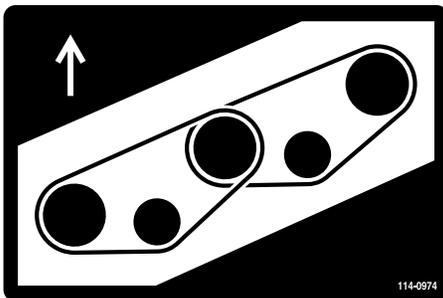
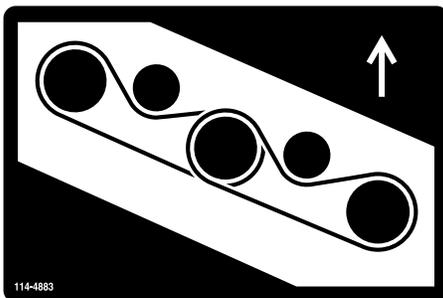

Figure 131
Figure 132
7. Route the new belt around the spindle pulleys and idler-pulley assembly (Figure 131 and Figure 132).